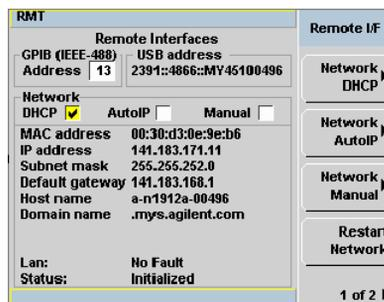

Figure 1-3 Typical LAN remote interface
- 3 Press  , **Remote Interfaces** to display the Remote Interface display (see Figure 1-3). Ensure that AutoIP is checked.
- 2 Press  , **Remote Interfaces** to display the Remote Interface display (see Figure 1-3).